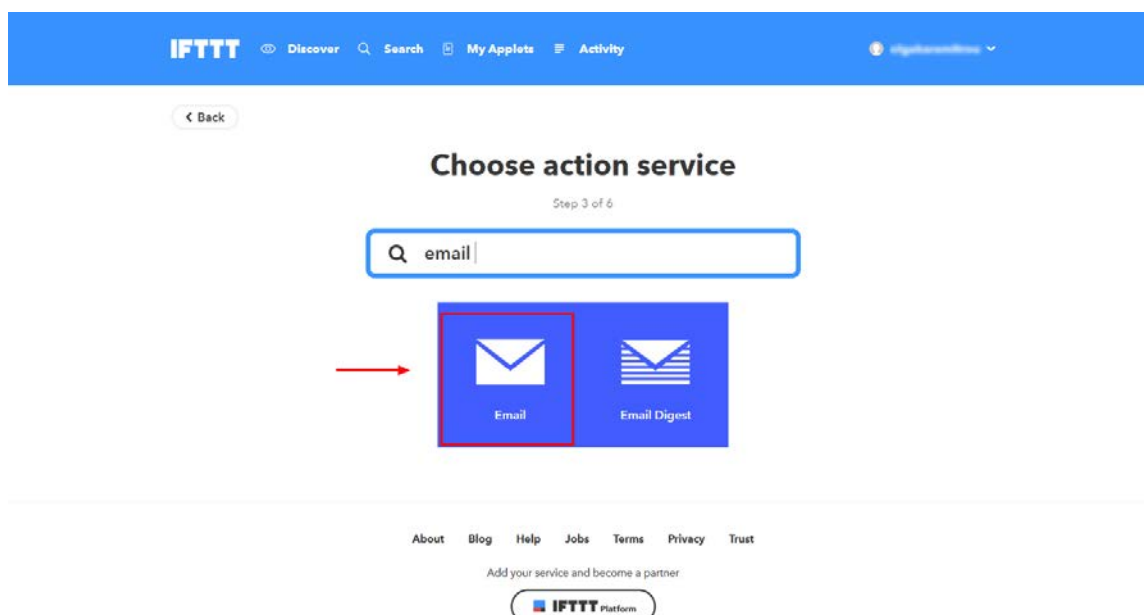

Figure 80: Make an IFTTT Applet, Step 3
- On the '**Choose action service**' screen, type in "email" in the search field and click the **Email icon**, as shown below in Figure 80.